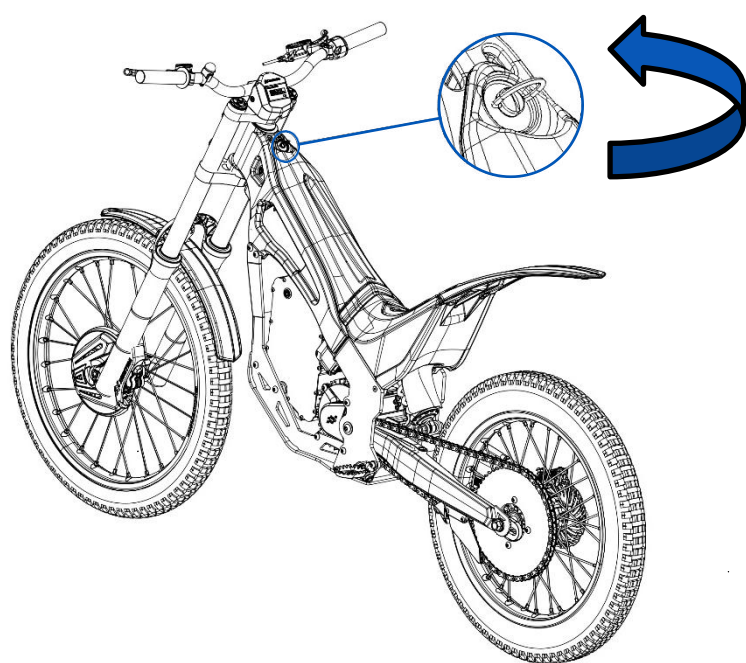

Fig. 36
- 2- Next, turn the quick screw located on the top (Figure 36) half a turn to the left. Remove it without removing it from the upper casing, to remove this component from the frame.
- 2- Next, turn the quick-release screw located on the top (Figure 36). Remove it without actually removing it from the upper casing, in order to remove this component from the frame.